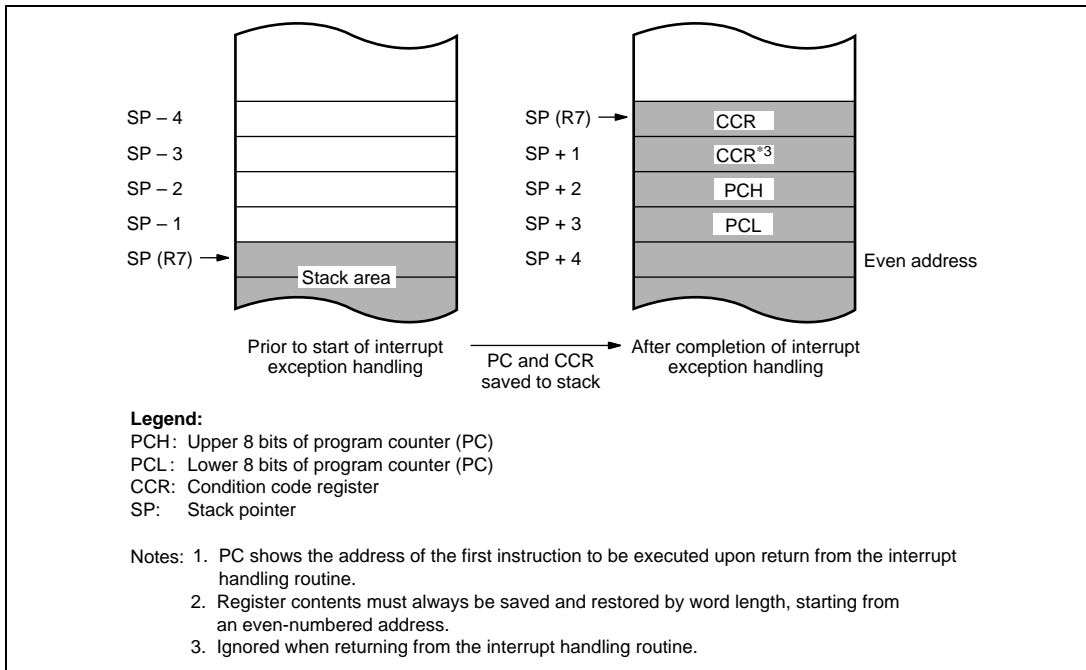

Figure 3-2 Stack Status after Exception Handling
4. If the CPU accepts the interrupt after processing of the current instruction is completed, interrupt exception handling will begin. First, both PC and CCR are pushed onto the stack. The state of the stack at this time is shown in figure 3-2. The PC value pushed onto the stack is the address of the first instruction to be executed upon return from interrupt handling.